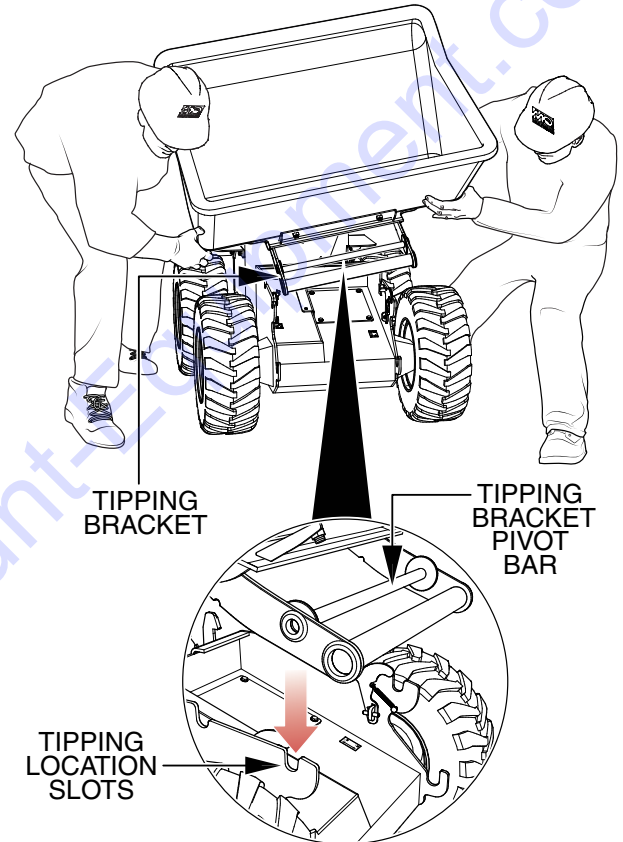

Figure 29. Tub Placement
4. With **two people**, lift the tub and tipping bracket onto the chassis (Figure 29). Make sure the tipping bracket pivot bar rests within the tipping slots.